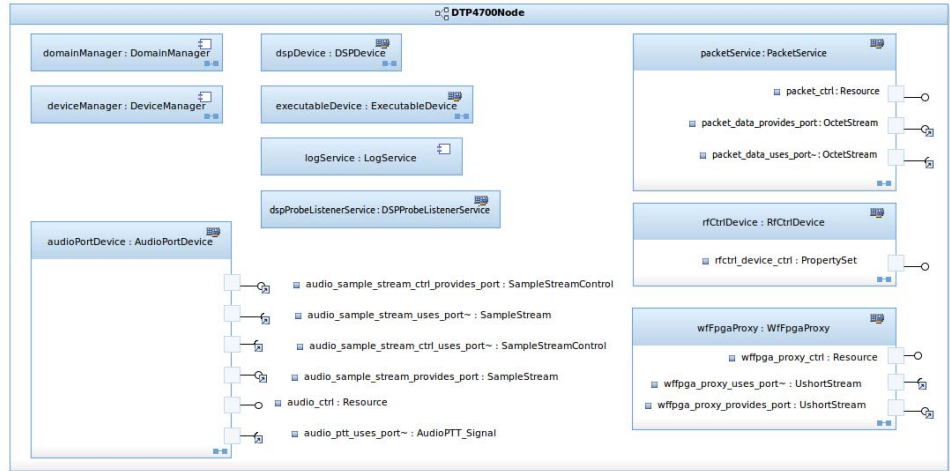

Figure 35 Components in the DTP4700Node
Step 2: Double-click the `DTP4700Node` diagram element in the tree. This will display the diagram showing the `DTP4700Node` and the component instances contained within it, as shown in *Figure 35*.